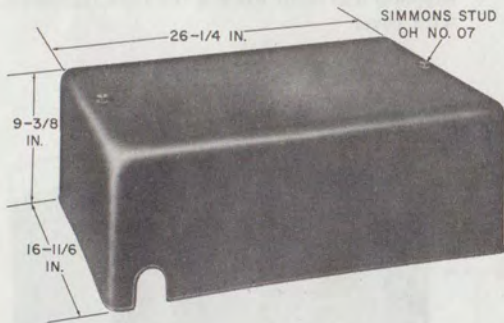

Fig. 36—117A Cover
8.02 The 117A cover (Fig. 36) is designed to enclose:
- One 16A (MD) or 16C apparatus mounting
- Two 31A (MD) apparatus mountings mounted on two 173B backboards